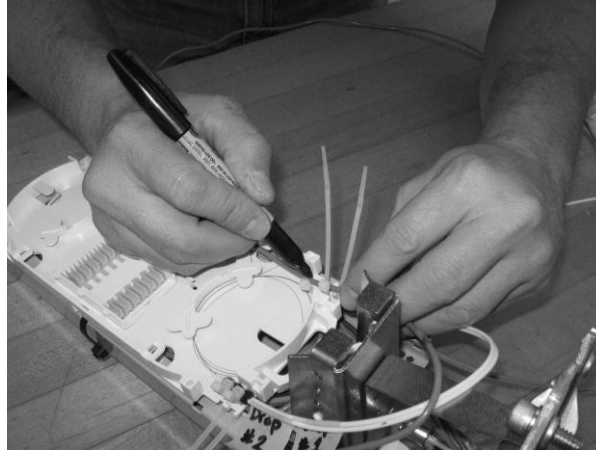

Figure 24 – Mark the buffer tube for the ring cut.
5.13 Route the active buffer tube to the splice tray. The mid-span buffer tube will be secured on both sides of the splice tray. Mark each side of the buffer tube about 1 in. (2.5 cm) past the edge of the tray as shown in Figure 24. Slit, ring cut, and remove the section of buffer tube between the marks.